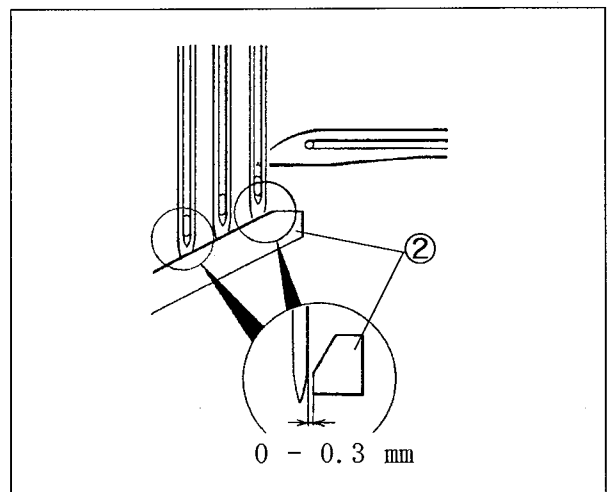

Fig. 63
- (4) Loosen the screws① and ③. Adjust the clearance between the needle guard(front)② and the left or right needle to 0 - 0.3 mm respectively. (Fig. 63)